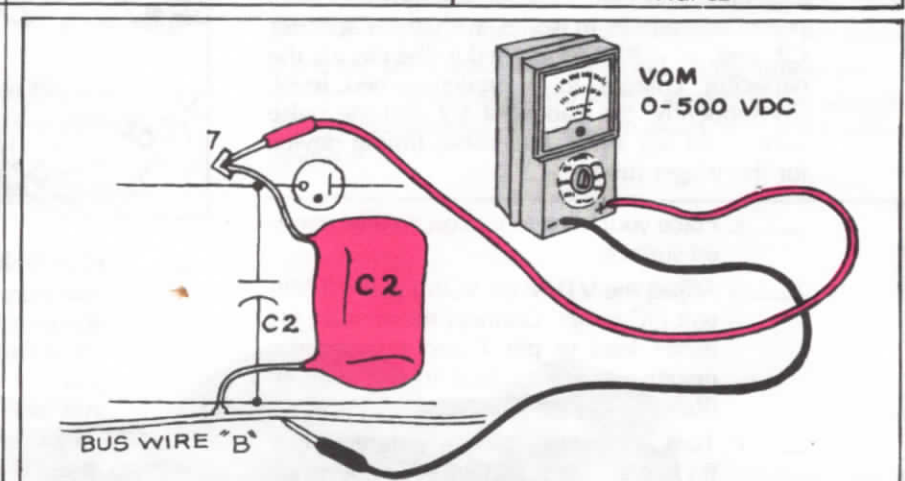

FIG. 34
- b. Adjust the VTVM (or VOM) to the 0-500 volt DC range. Connect the positive (+) meter lead to pin 7 and connect the negative (-) meter lead to bus wire B. (Refer to Figure 34.)